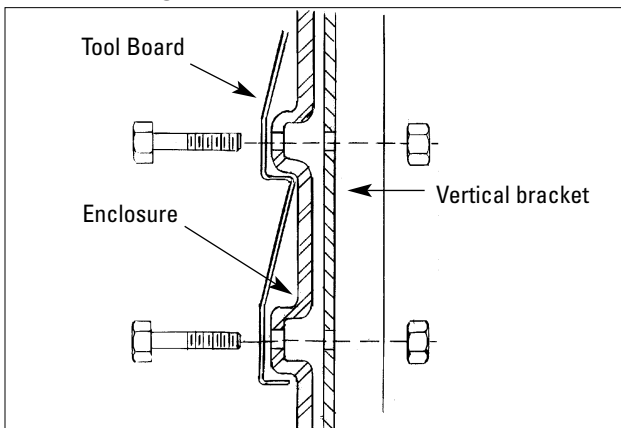

Figure 5 – Mount tool board
20. Secure the tool board and the brackets to the Enclosure, as in fig. 5, using (4) 1/4-20x2 1/2 bolts and nuts. Insert the bolts through the tool board, then through the mounting holes in the Enclosure back wall, and finally through the vertical brackets. Snug the nuts down, but do not tighten.